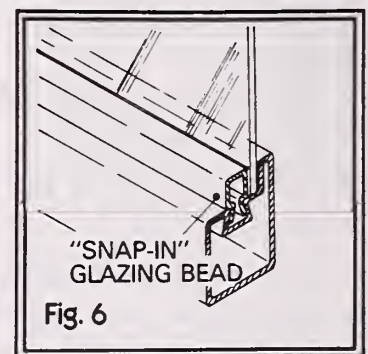

Fig. 6
(A) Frames in which the glass rests against a raised portion of the frame and is held in place by a "snap-in" glazing bead or strip that fits into a groove (fig. 6). Mastic or some form of rubber seal may be used to seal the glass.